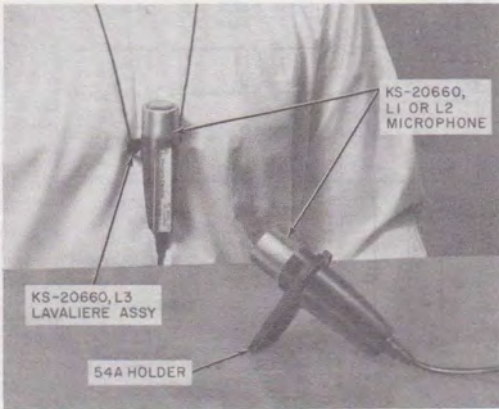

Fig. 5—Remote Microphones Using Lavalier and Holder
**4.08** The remote microphones can be hand-held, inserted in a desk stand, or used as a lavalier (Fig. 5). A talking distance of one foot is recommended.